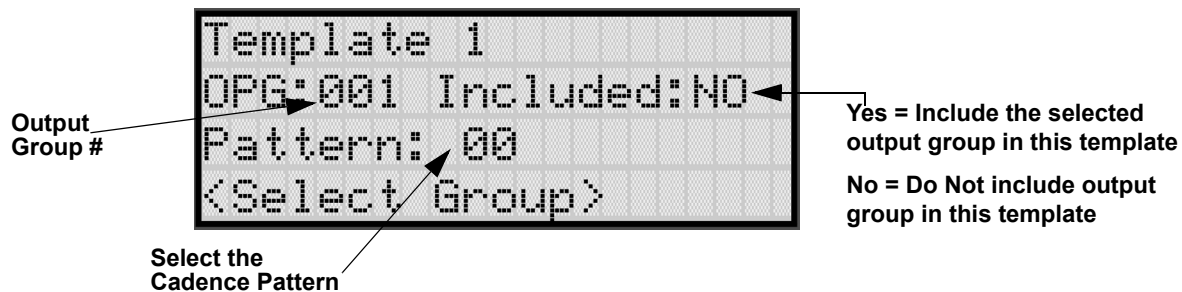

Figure 7-9 Output Group Template Programming Screen
5. Select output group number. See Figure 7-9.